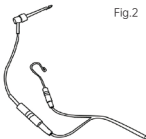

Fig.2
- Connect the file clip: connect the plug of the file clip to either plug of the measuring wire. Connect the lip hook: connect the lip hook to the other plug of the measuring wire. (Fig.2)